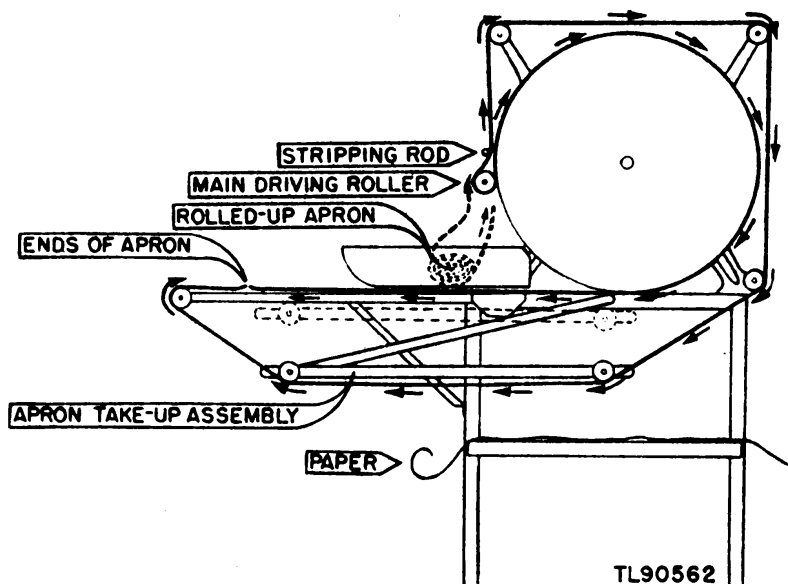

Figure 12. Apron installation.
**b. Reassembly.** (1) Place a large piece of paper on the integral stays between the legs to avoid soiling the new apron. Raise the apron take-up assembly to the position indicated by dotted lines in figure 12, and tie it to the feeding table arm. Place the new, rolled-up apron in the print tray.
(2) Draw the free end of the apron under the main driving roller assembly and over and around the drum assembly with the canvas
duck side of the apron towards the drum. Bring this end above the take-up rollers to the position shown in figure 12.